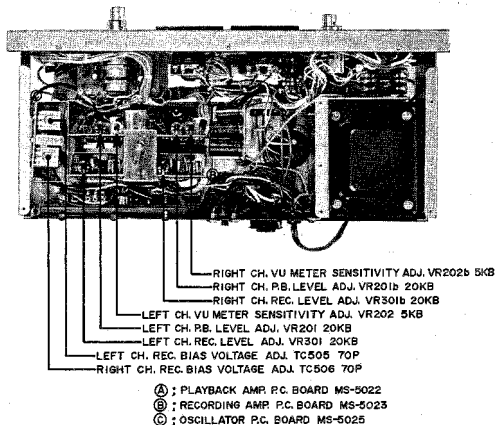

Fig. 20
- 5) Adjust P.B. Amp. P.C. Board playback level adjustment semi-fixed resistors VR201 20 kΩ (Left Channel) and VR201b 20 kΩ (Right Channel) shown in Fig. 20 to obtain a High Sensitivity V.T.V.M. indication of 4 dB (1.228 V)
After the playback output level adjustment has been completed, adjust P.B. Amp. P.C. Board VU meter sensitivity adjustment semi-fixed resistors VR202 5 kΩ (Left Channel) and VR202b 5 kΩ (Right Channel) shown in Fig. 20 to obtain a VU meter indication of "0" VU on both channels.
- 6) Set Monitor Switch to SOURCE position, and adjust Rec. Amp. P.C. Board recording level adjustment semi-fixed resistors VR301 20 k Ω (Left Channel), and VR301b 20 k Ω (Right Channel) shown in Fig. 20 to obtain a V.T.V.M. indication of 4 dB on both channels.
- 3) Under these conditions, adjust OSC P.C. Board recording bias voltage adjustment trimmer condensers TC505 70P (Left Channel) and TC506 70P (Right Channel) shown in Fig. 20 to obtain an equally flat response at 1,000 Hz and 10,000 Hz.